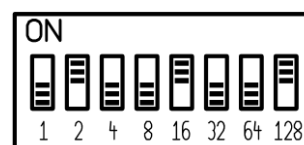

Fig. 2:
Set the address of the JDB6410 module using the Dual Inline Package (DIP) switches on the face of the JDB6410 module. The address equals the sum of the numbers set to ON. For example, if the second (2), the fifth (16), and the eighth (128) DIP switches are set to ON, the device address is 146 (2 + 16 + 128 = 146). See Figure 2.